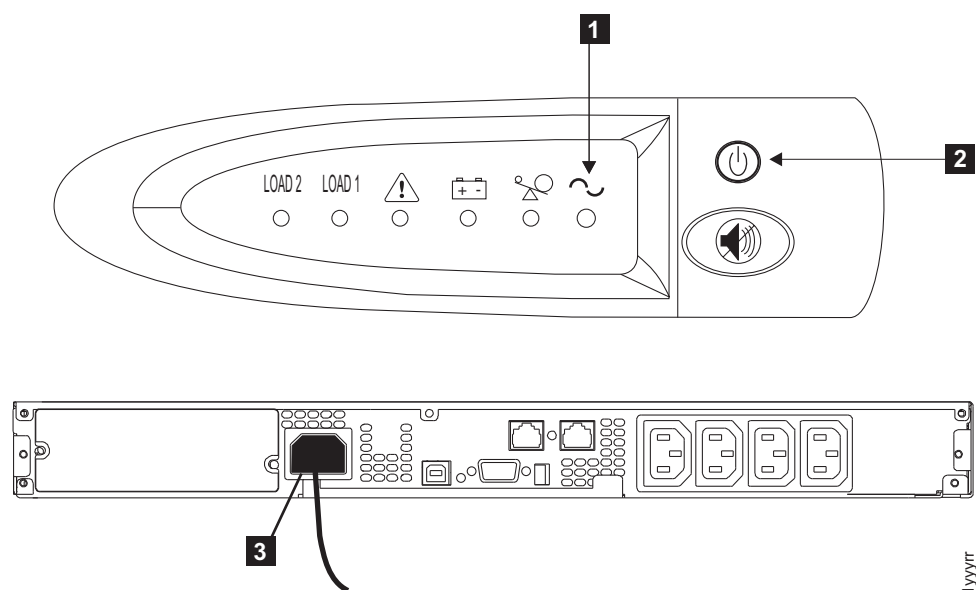

Figure 239. Front and back panels for the 2145 UPS-1U
2. Press and hold the on/off button (**2**) until the power light (**1**) is extinguished (approximately 5 seconds). On some versions of the 2145 UPS-1U, you need a pointed device, such as a screwdriver, to press the on/off button. The 2145 UPS-1U enters standby mode, with all indicators off. Figure 239 illustrates the front and rear views of the 2145 UPS-1U.